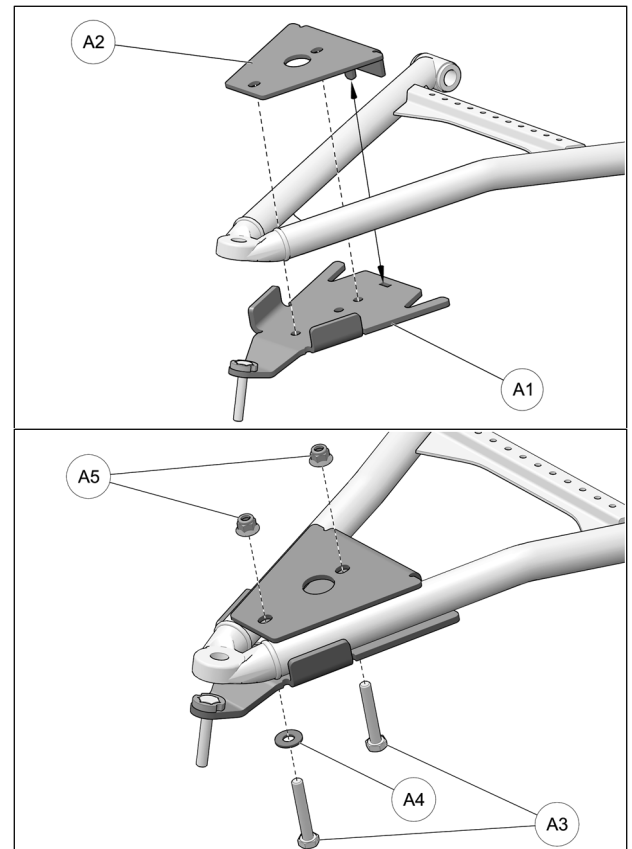

Fig. 17
5. Position anchor bracket (A1) under front lower suspension arm, as shown in the figure below. Position bracket cover (A2) over suspension arm and align holes in cover and bracket. Slip washer (A4) on the front M10x65mm bolt (A3). Insert M10x65mm bolts (A3) through the bottom and secure the two parts together with nuts (A5) provided. Tighten assembly to 50 N•m [37 lb•ft] of torque. Refer to Fig. 17